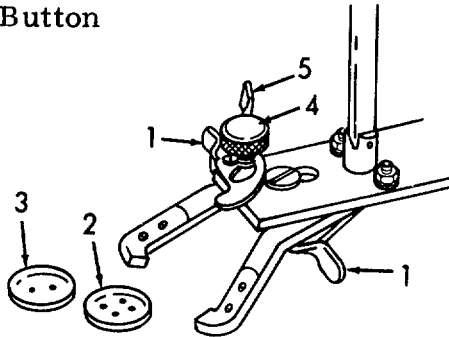

Figure 2-53. Button Clamp Opening, Adjustment.
e. *Adjusting Opening in Button Clamp (Refer to Figure 2-53).*